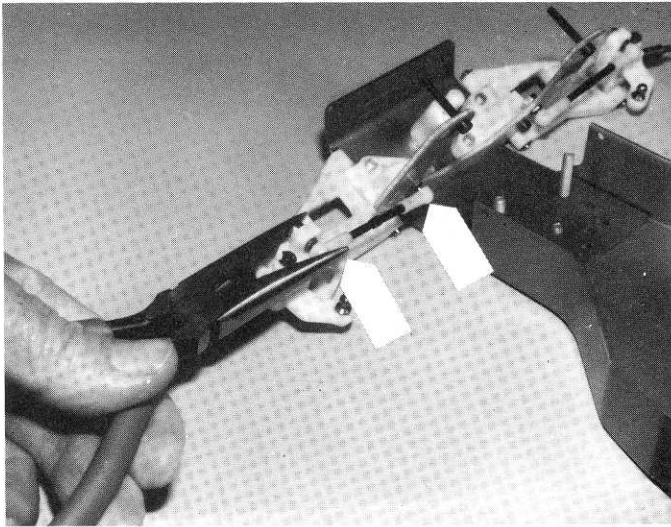

Fig. 18
□ **Fig. 18** Snap the rods on the metal balls, as shown. You'll probably have to use pliers. Do the R.H. side.